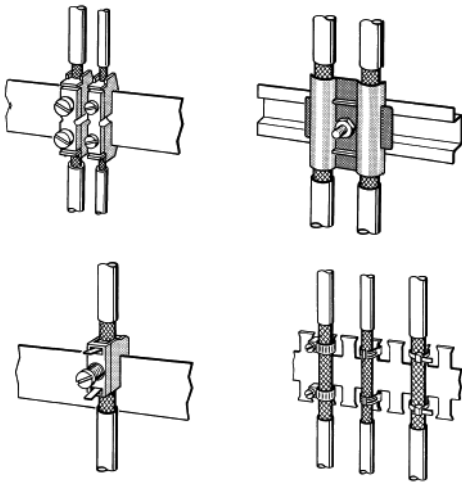

Fig. 14: Securing shielded lines using cable clamps and tube clips (schematic diagram)
- ▶ The clamps must fully enclose the shield and make good contact (see Fig. 14).